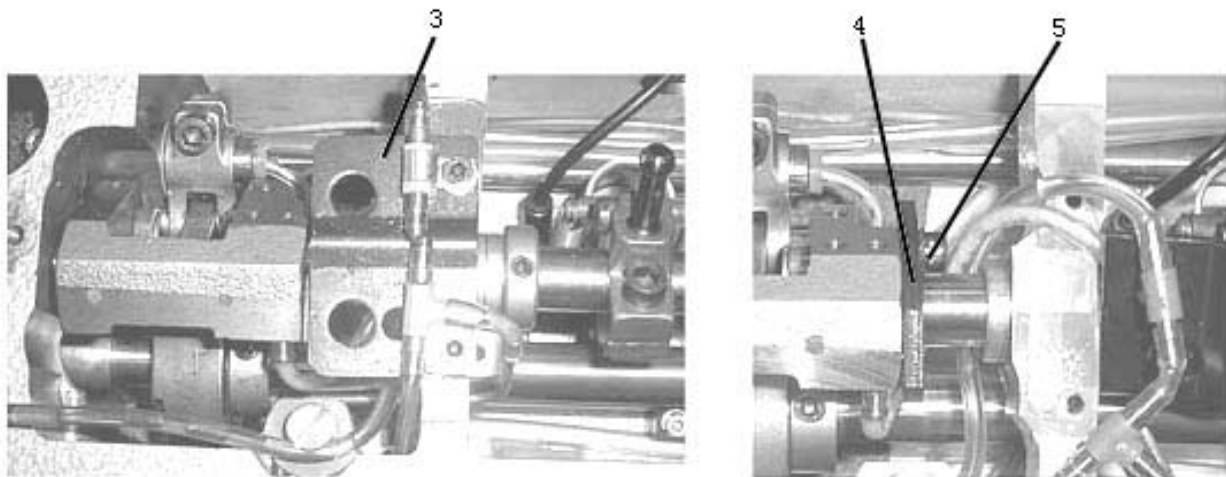
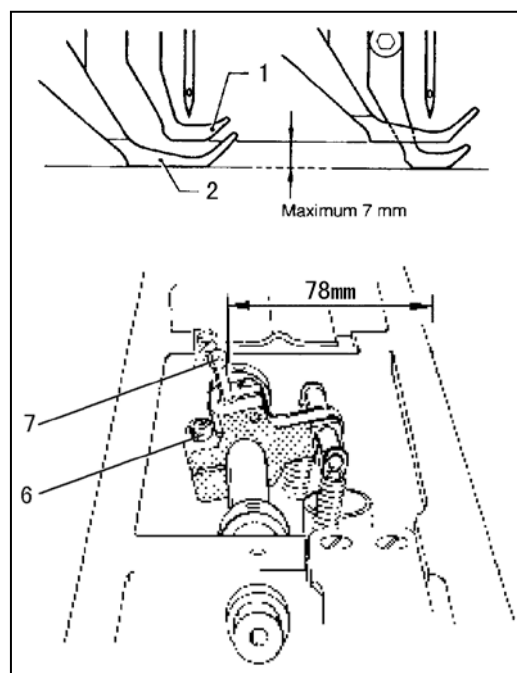

Fig.33
Fig.34
24) Adjusting the alternating presser foot movement amount(Fig.33&Fig.34)